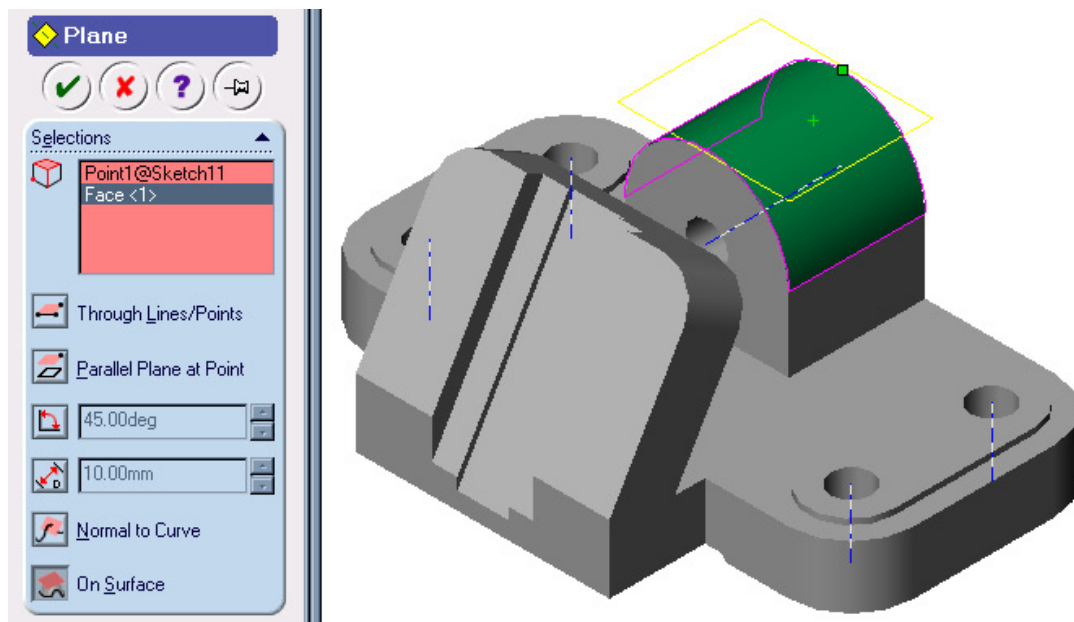

Figure 31 Top hole placement plane
37. Select the cylindrical face of the boss and the sketch point as shown in Figure 31. Their names appear in the Selections text box.